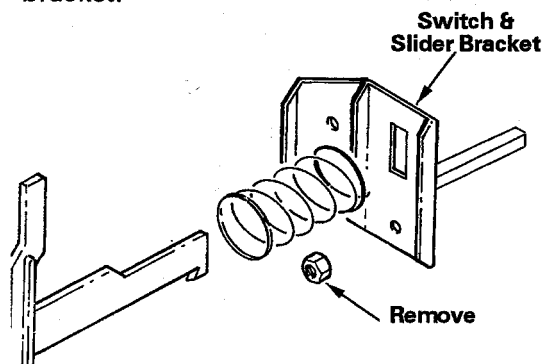

Figure 2-8
5. Remove two nuts, *see Figure 2-8*, from the thru-bolts holding the switches and switch slider bracket to timer mounting bracket.